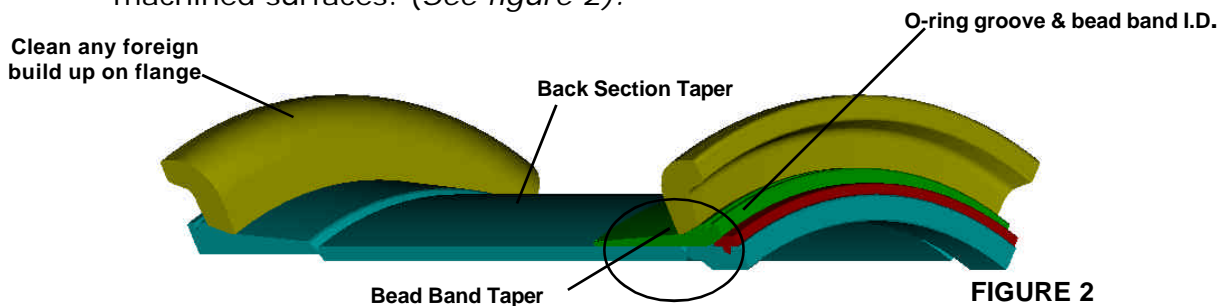

FIGURE 2
**Step 1.** Clean **ALL** mating surfaces on the tire, rim or wheel and all corresponding components. On new assemblies, remove any protective grease from machined surfaces. (See figure 2).